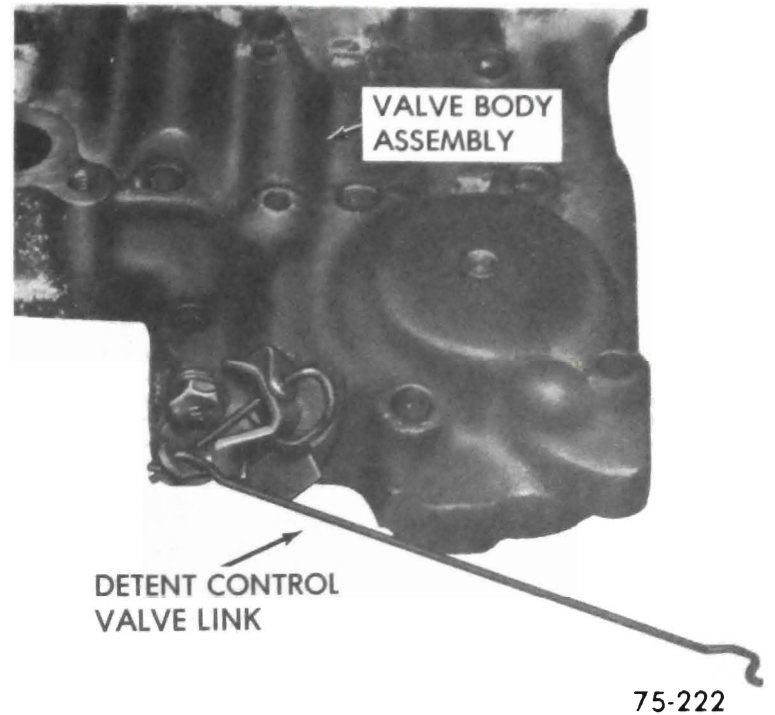

Figure 75-274
4. Connect detent control valve wire to detent valve actuating lever. See Figure 75-274.